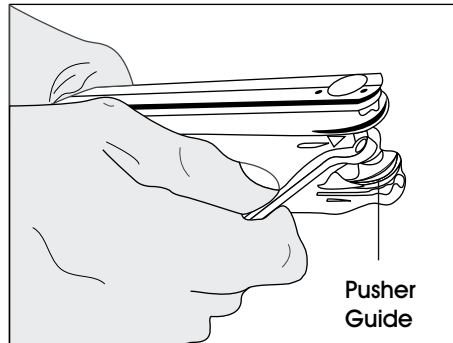

Figure 25
6. Loosen the rod with a 6 mm offset wrench and remove the pusher guides. Remove the pusher. (See Figure 25)